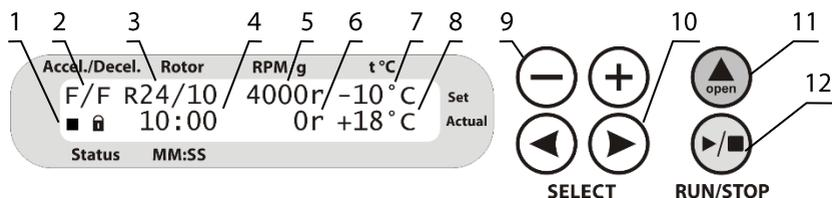

Figure 5. LMC-4200R control panel
- Set chamber temperature, in degrees Celsius (only **LMC-4200R**, fig. 5/7);
- Actual chamber temperature, in degrees Celsius (only **LMC-4200R**, fig. 5/8).
5.5.5. Chamber temperature (fig. 5/7, only for **LMC-4200R**). Select the chamber temperature, step 1 °C. Cooling starts independently from centrifugation.